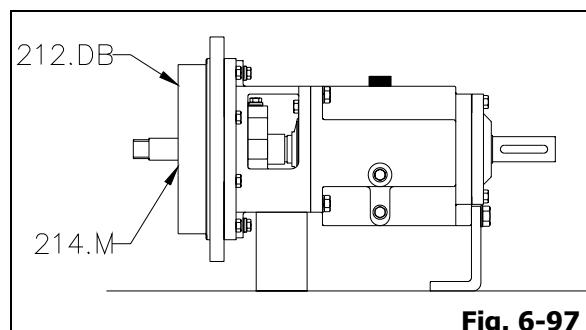

Fig. 6-97
15. Install end ring for mechanical sealing (214.M) assembly carefully into stuffing box cover (212.DB) until the lapped surfaces of the pump end mechanical seal (204) are seated on each others. Align bolt holes and install end ring bolts. Tighten bolts evenly (Fig. 6-97).